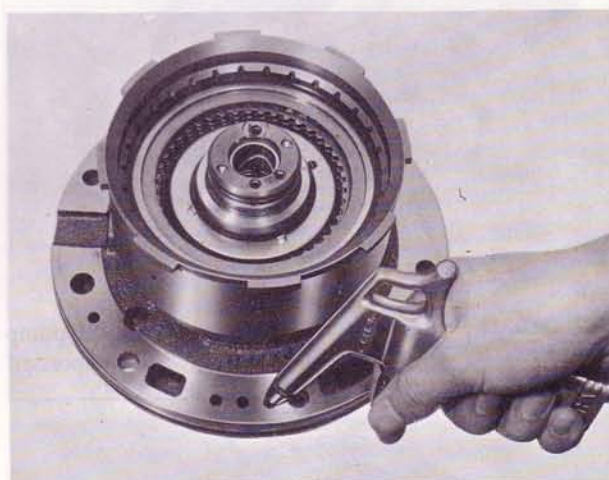

Fig. 7A-22 Testing front clutch
3. Install the front clutch assembly to the oil pump. Blow compressed air into the oil hole as shown in Fig. 7A-22 and check the clutch operation.